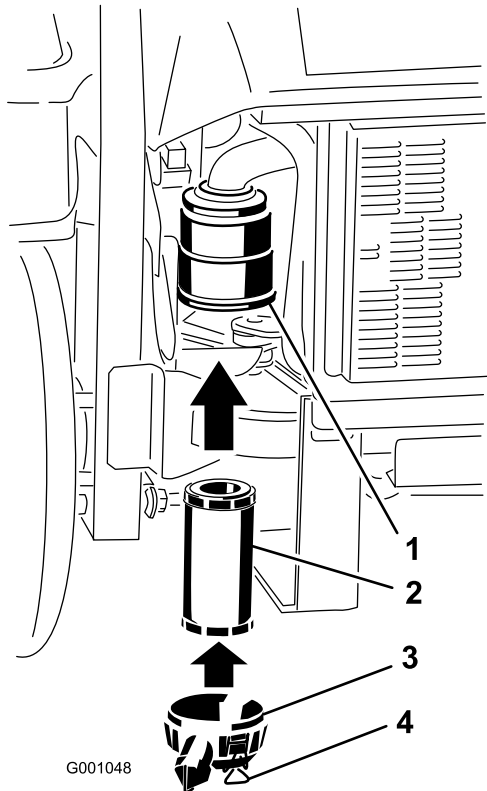

Figure 44
2. Carefully slide the filter into the filter body (Figure 44). Ensure that it is fully seated by pushing on the outer rim of the filter while installing it.
3. Install the air-cleaner cover and secure the latches (Figure 44).